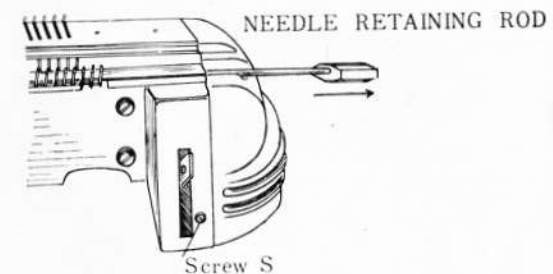

Fig 59A
1. Unscrew the screw "S" of the right end piece, Fig. 59A.
5. Draw out the needle retaining rod, as shown in Fig. 59A, until the needle you wish to change is freed.